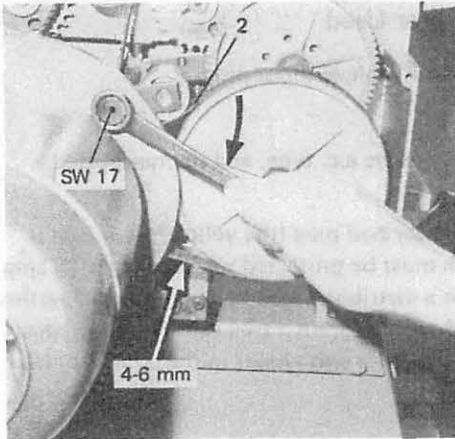

Fig. 5
7. The tensioning pulley which has already been mounted, is now turned down as shown in Fig. 5, so that the flat belt on the opposite side cannot be raised more than 6 mm (approx. 1/4 in.). But on no account must the tensioning roll rest on the belt pulley (Fig. 5, No. 2).